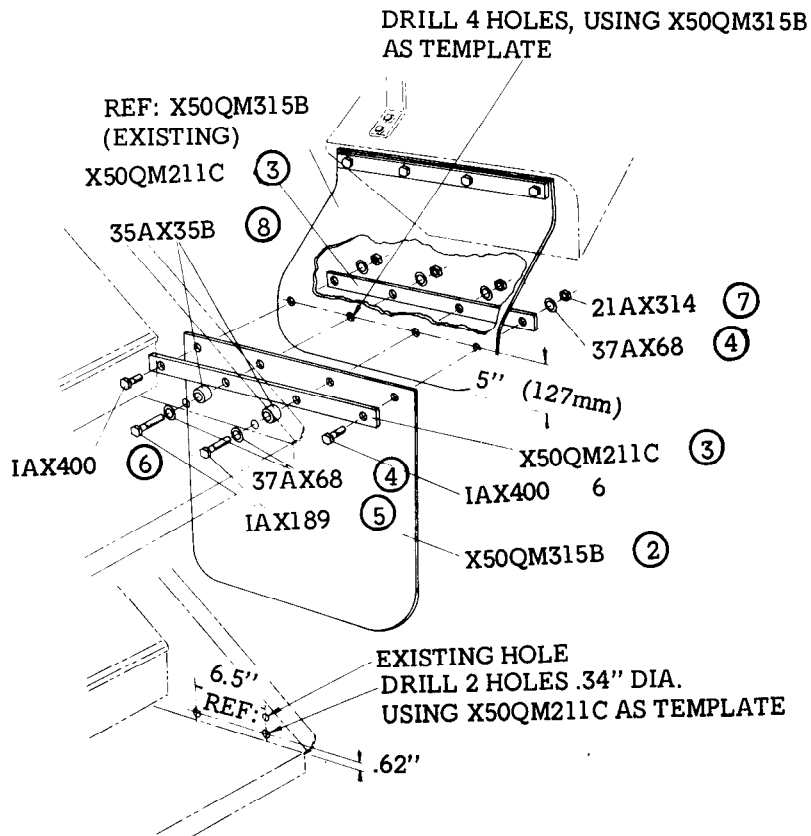

FIG 1 - FITTING DETAILS FOR ADDITIONAL MUDFLAP
- b. Using mudflaps, item 2 from Table 1, as templates, drill the existing mudflaps to suit.
- c. Using the existing holes in the front face of the steps as reference points (see Fig 1), drill two holes 0.34 inch diameter, using clamping bars, item 3 from Table 1, as templates.
- d. Assemble the new mudflaps, item 2 from Table 1, to the old ones, using clamping bars, item 3 from Table 1, and two bolts, two flat washers and two locknuts, items 6, 4 and 7 from Table 1, ensuring that the bolts are fitted into the outer pairs of holes.
- f. Using the spacers, item 8 from Table 1, between the clamping bars and the step (see Fig 1), secure the mudflap to the step using two bolts, four flat washers and two locknuts, items 5, 4 and 7 from Table 1.